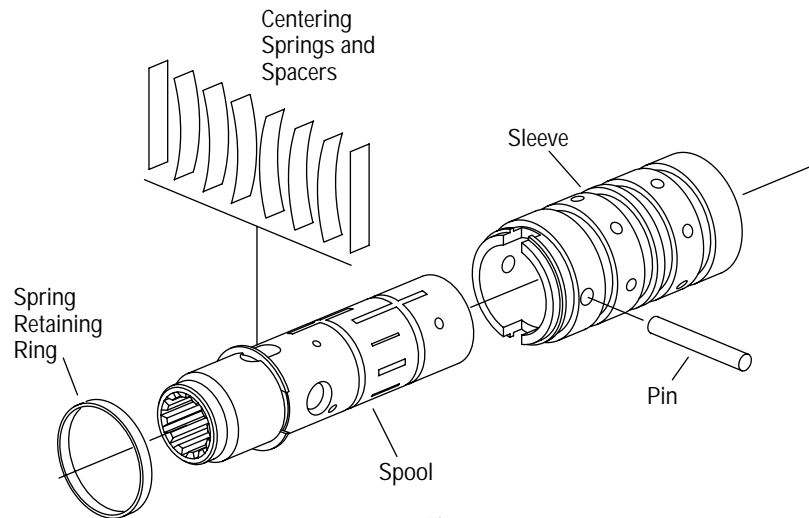

Figure 3
**7** Remove the pin that holds the spool and sleeve together (see Figure 3).
- 15 Install the pin (see Figure 3).